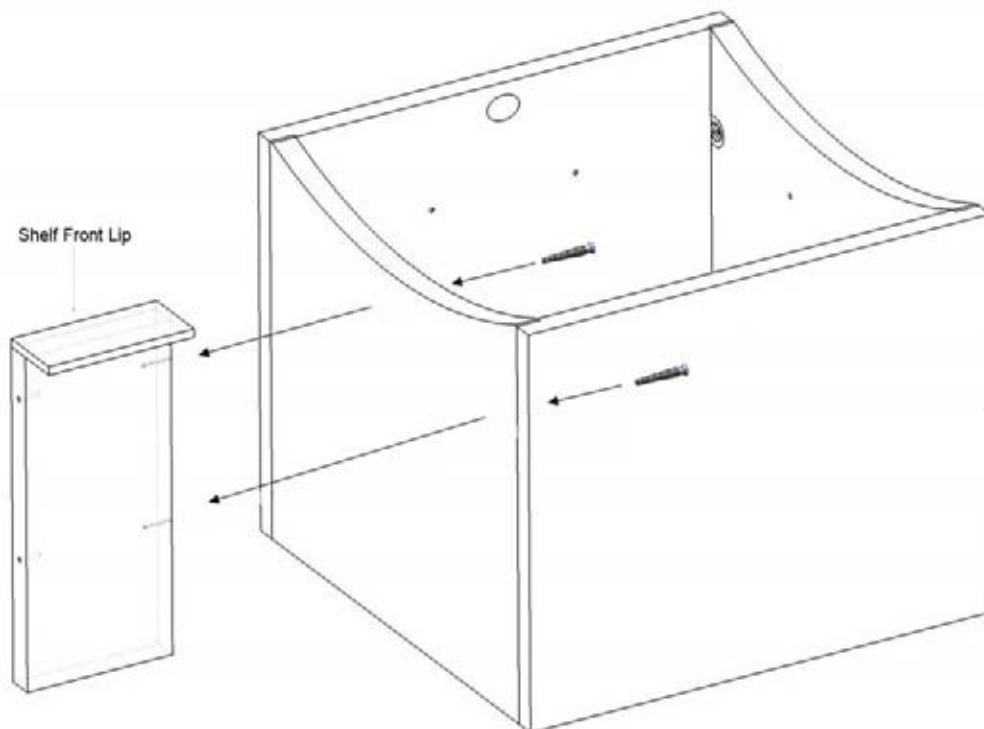

Figure 1
1. Set the wave cube on its open back on a clean surface. Screw the #8 square head screws through the pre-drilled holes on the side you are placing the shelf, until the tip of the screw breaks through the surface (**Figure 1**). Make sure the front lip of the shelf is facing forward.
2. Line the #8 square head screws up with the pre-drilled holes in the shelf and continue drilling until the shelf is securely attached and screw heads are flush with the panel surface (**Figure 1**).